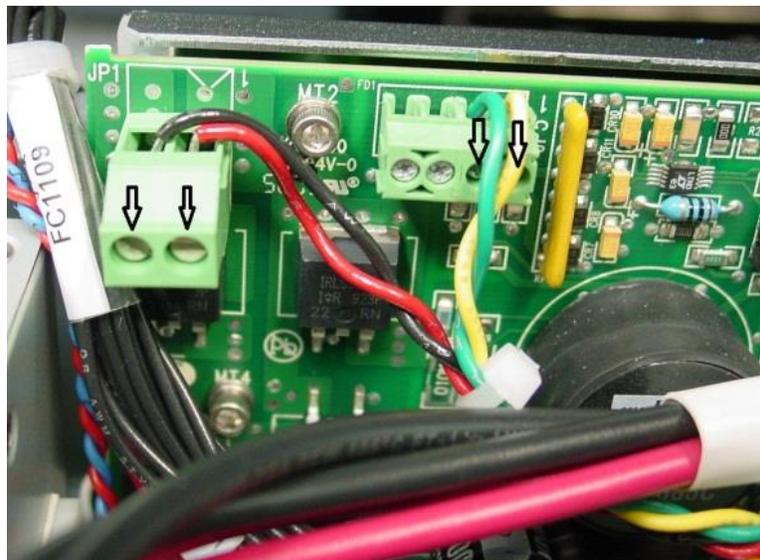

Figure 2: Loosen Screws on JP1 and JP5
6. With a screwdriver, loosen the screws holding the red wire and black wire into **JP1** shown in **Figure 2**. Loosen the screws holding the yellow wire and green wire into **JP5** shown in **Figure 3**. Remove the wires.